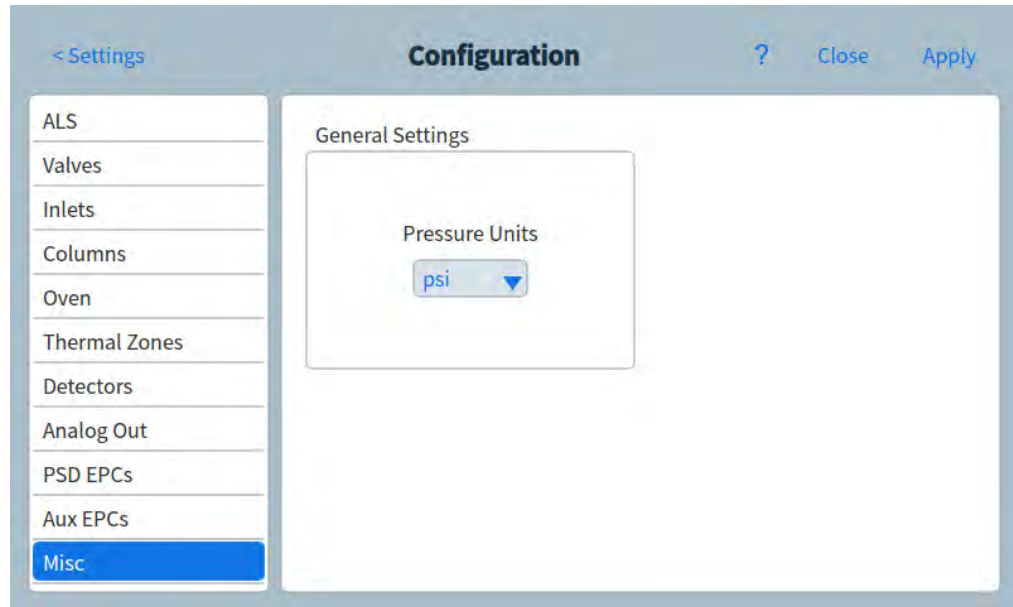

Figure 66. Miscellaneous settings page
- 1 Select **Settings > Configuration > Misc**. See **Figure 66**.